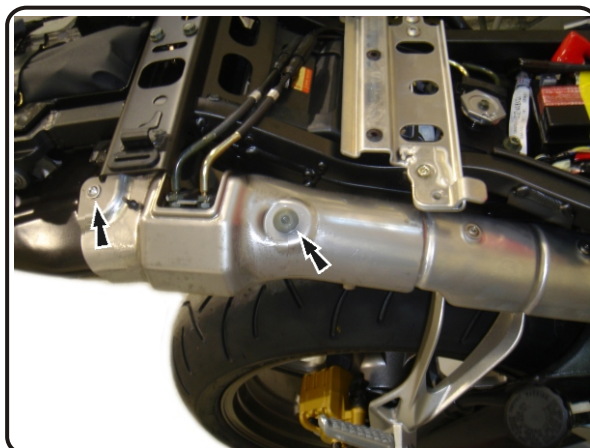

Fig. 7
- 7 Remove black rubber insulators and then remove the metal heat shield that covers the tailpipe exhaust valve (see Fig. 7).